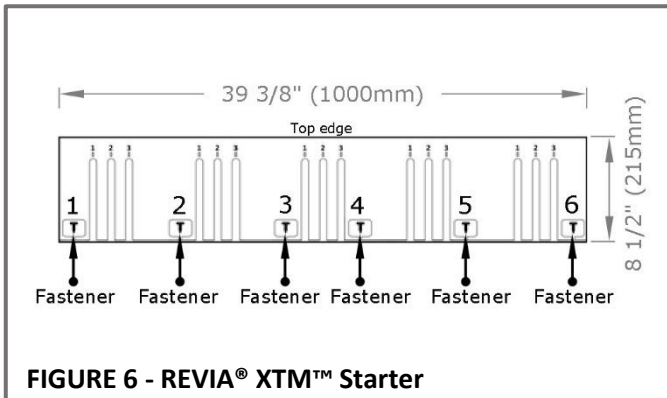

FIGURE 6 - REVIA® XTM™ Starter
- Fasten starter shingles with **six fasteners** positioned within the boxes indicated on the shingle. See **Figure 6**.